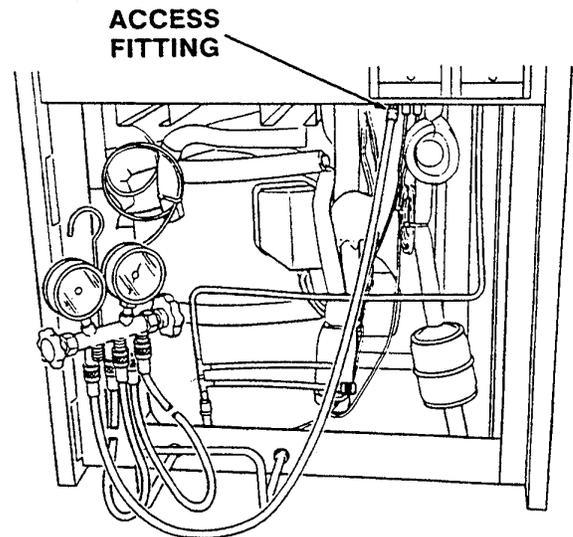

Figure 40. E.P.R. Schrader Access Fitting
2. Remove the cap from the E.P.R. Schrader access fitting (Figure 40).